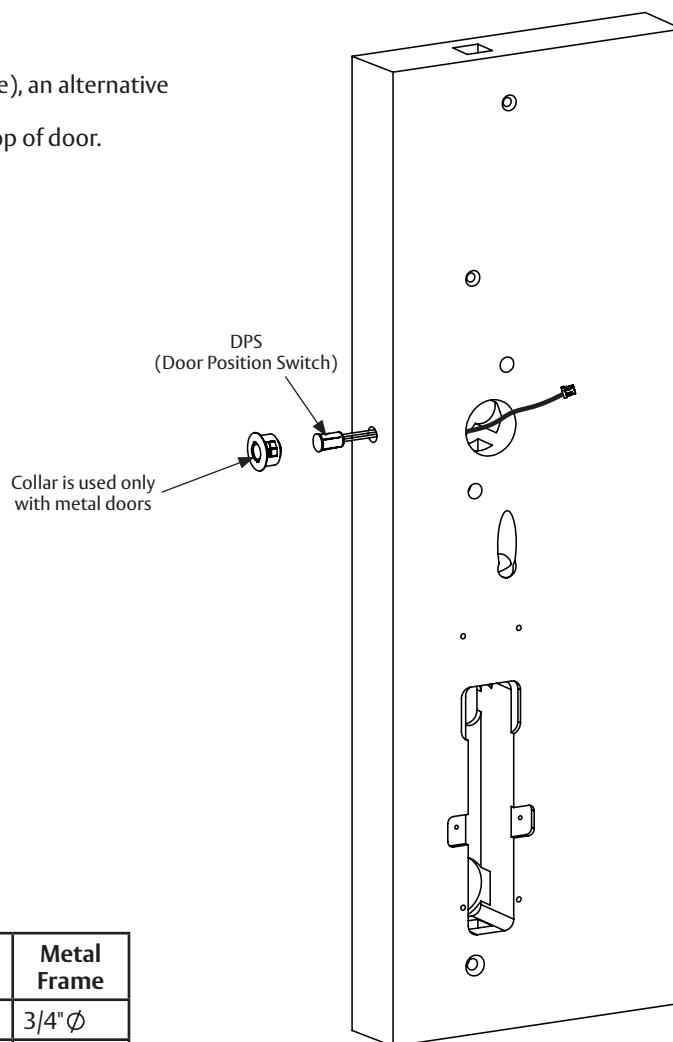

Figure 7-2A
1. Insert connector end of DPS through the raceway on the latch edge of the door (Figure 7-2A).